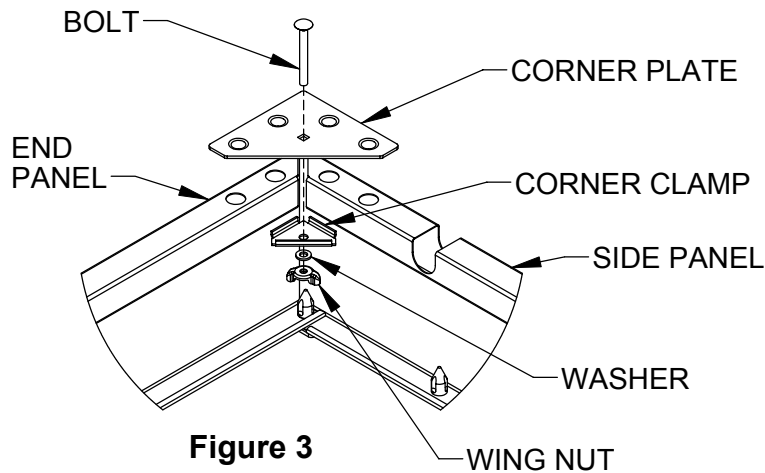
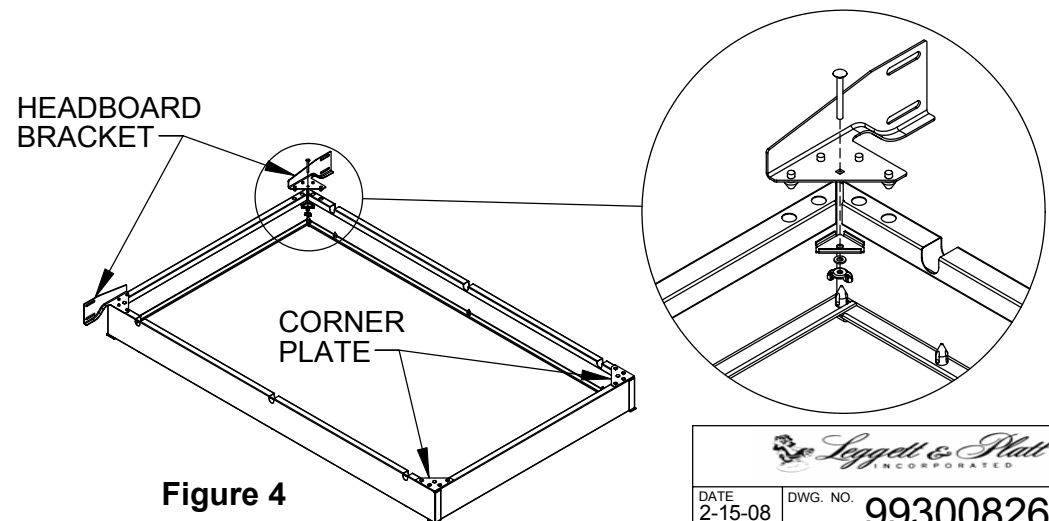

Figure 3
Figure 4
- Step 4:** Align the (4) bosses in the CORNER PLATE with the corner holes in the SIDE PANEL and END PANEL and press firmly into place. Hook the CORNER CLAMP under the inside lip of the panels, secure with bolt, washer and wing nut as shown in Figure 3. Repeat on all four corners. **Note:** Hand tighten, do not use tools. Optional HEADBOARD BRACKETS are attached using the same method as Step 4 above. HEADBOARD BRACKETS replace the CORNER PLATES at the head end. See Figure 4.